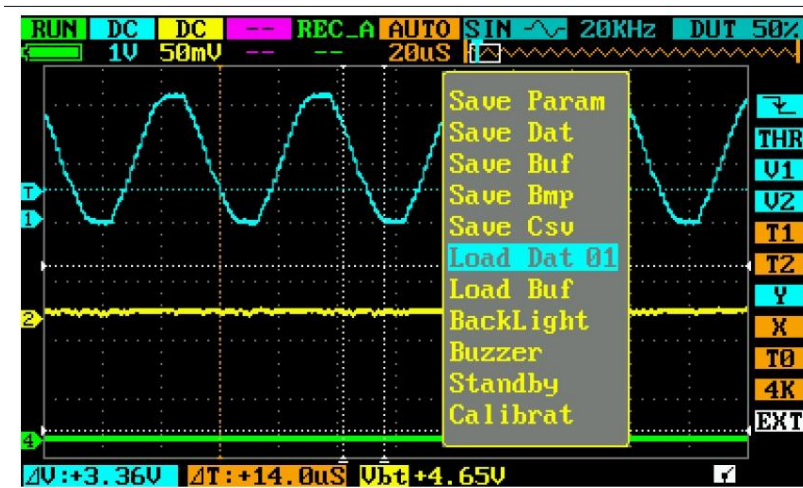

Figure 4.2
2. Input an unknown signal to CH\_A. In E field choose REC\_A. Press **■**, and choose Load Dat, as shown in Figure 4.2: